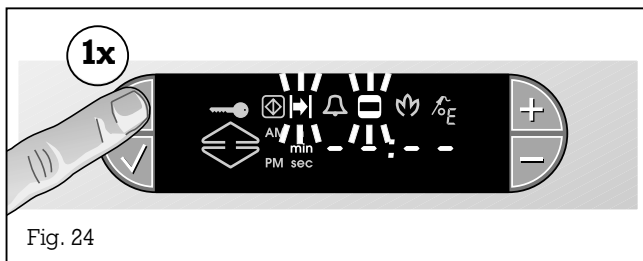

Fig. 24
- Press the ⌚ (Timer) key once. The ⏱ (Duration) symbol and the 🍲 (Cooking time) symbol flash on the display. Dashes appear on the display (i.e. no value programmed) (Fig. 24).